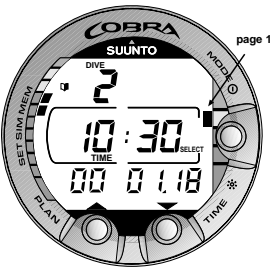

Fig. 4.7. Logbook, page I. Scroll different pages of specific dive.
**Page I, main display (Fig. 4.7.)**